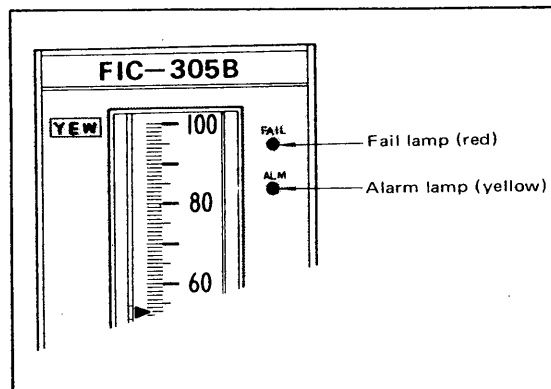

Figure 5-3-4. FAIL Lamp and ALM Lamp.
- (1) Alarm check (Figure 5-3-4).